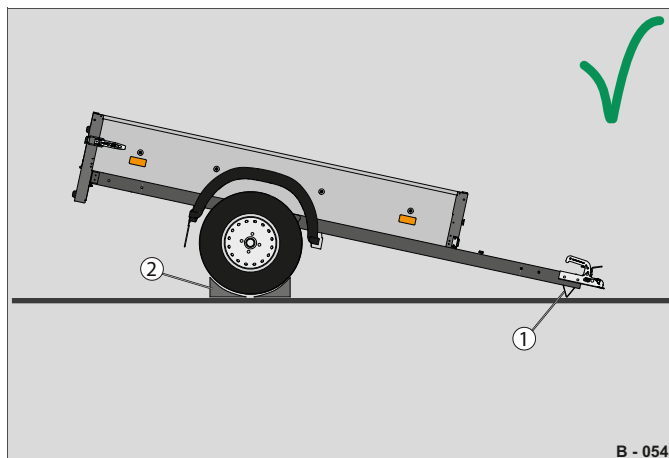

Fig. 95 Trailer parked
- Use wheel chocks (Fig. 95 /2) to secure the trailer against rolling away - see page 60.